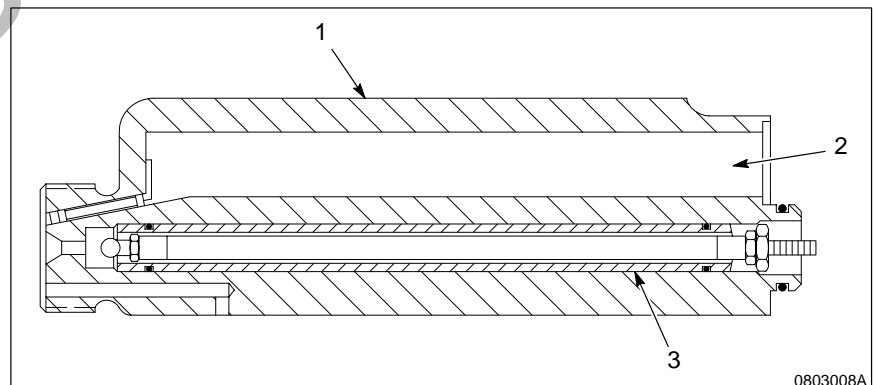

Fig. 8 Cleaning the guide bores
4. See Figure 8. In the gun extension (1), clean the cable guide bore (2) and needle guide bore (3) with the nylon bristle brush and solvent. If coating material is hardened in the needle guide bore, use a  $\frac{13}{64}$ -inch hand reamer to clean it.
5. Wash and blow out the needle guide bore (3) after reaming.
6. Use the Cable Cleaning Service Kit to clean the cable guide bore (2) before installing the cable on the gun. Refer to the *Parts* section for information on ordering the cleaning kit.